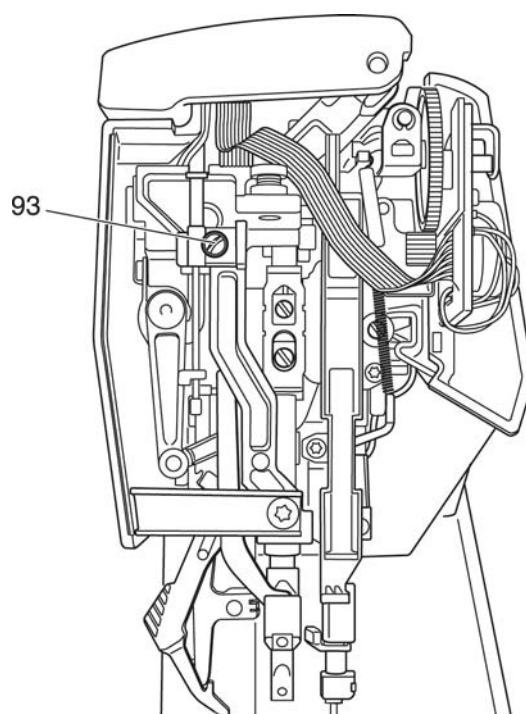

Fig. 48d
- Position the Bowden cable's clamping plate and secure with screw 93 (Fig. 48d).